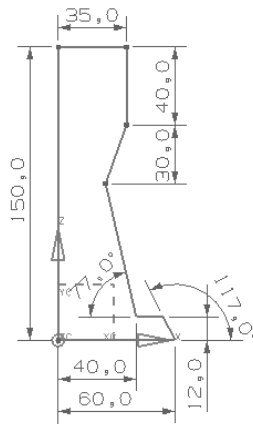

Figure 3-63 The completed sketch displayed after adding the required constraints and dimensions
- Select the line 8 and then place the dimension on the left of the sketch; an edit box with the default value is displayed. Enter **150** in this edit box and press the ENTER key; the dimension value is modified, refer to Figure 3-63.
- Select the line 1 and then place the dimension below the sketch. Modify the dimension value to **60** and press the ENTER key, refer to Figure 3-63.
- Select the line 5 and then place the dimension on the right of the sketch. Next, modify the dimension value to **30** and press the ENTER key, refer to Figure 3-63.
- Select the line 6 and then place the dimension on the right of the sketch. Next, modify the dimension value to **40** and press the ENTER key, refer to Figure 3-63.
- Select the line 7 and place the dimension above the sketch. Next, modify the dimension value to **35** and press the ENTER key, refer to Figure 3-63.
- Select the line 2 and then the line 1; an angular dimension is attached to the cursor. Move the cursor outside the sketch toward the right and click the left mouse button to place the dimension. Next, modify the dimension value to **117** and press the ENTER key, refer to Figure 3-63.
- Select lines 3 and 4; an angular dimension is attached to the cursor. Move the cursor inside the sketch and place the dimension. Next, modify the dimension value to **77** and press the ENTER key, refer to Figure 3-63.
10. Select the line 2 and place the dimension on the right of the line. Next, modify the dimension value to **12** and press ENTER, refer to Figure 3-63. Press the ESC key twice.
11. Choose the **Fit** button from the **View** toolbar. The resulting sketch after adding all dimensions is shown in Figure 3-63.
In Figure 3-63, the display of constraints is turned off to get a better display of dimensions. You can turn off the display of constraints by choosing the **Show All Constraints** button. Note that it is a toggle button.